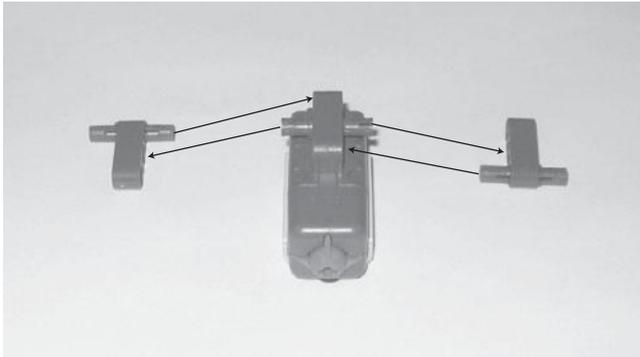

Figure 11.6
Step 3: Take the two 3M straight beams and connect them to the touch sensor using the already attached connector pegs with friction 3M, as shown in Figure 11.6.